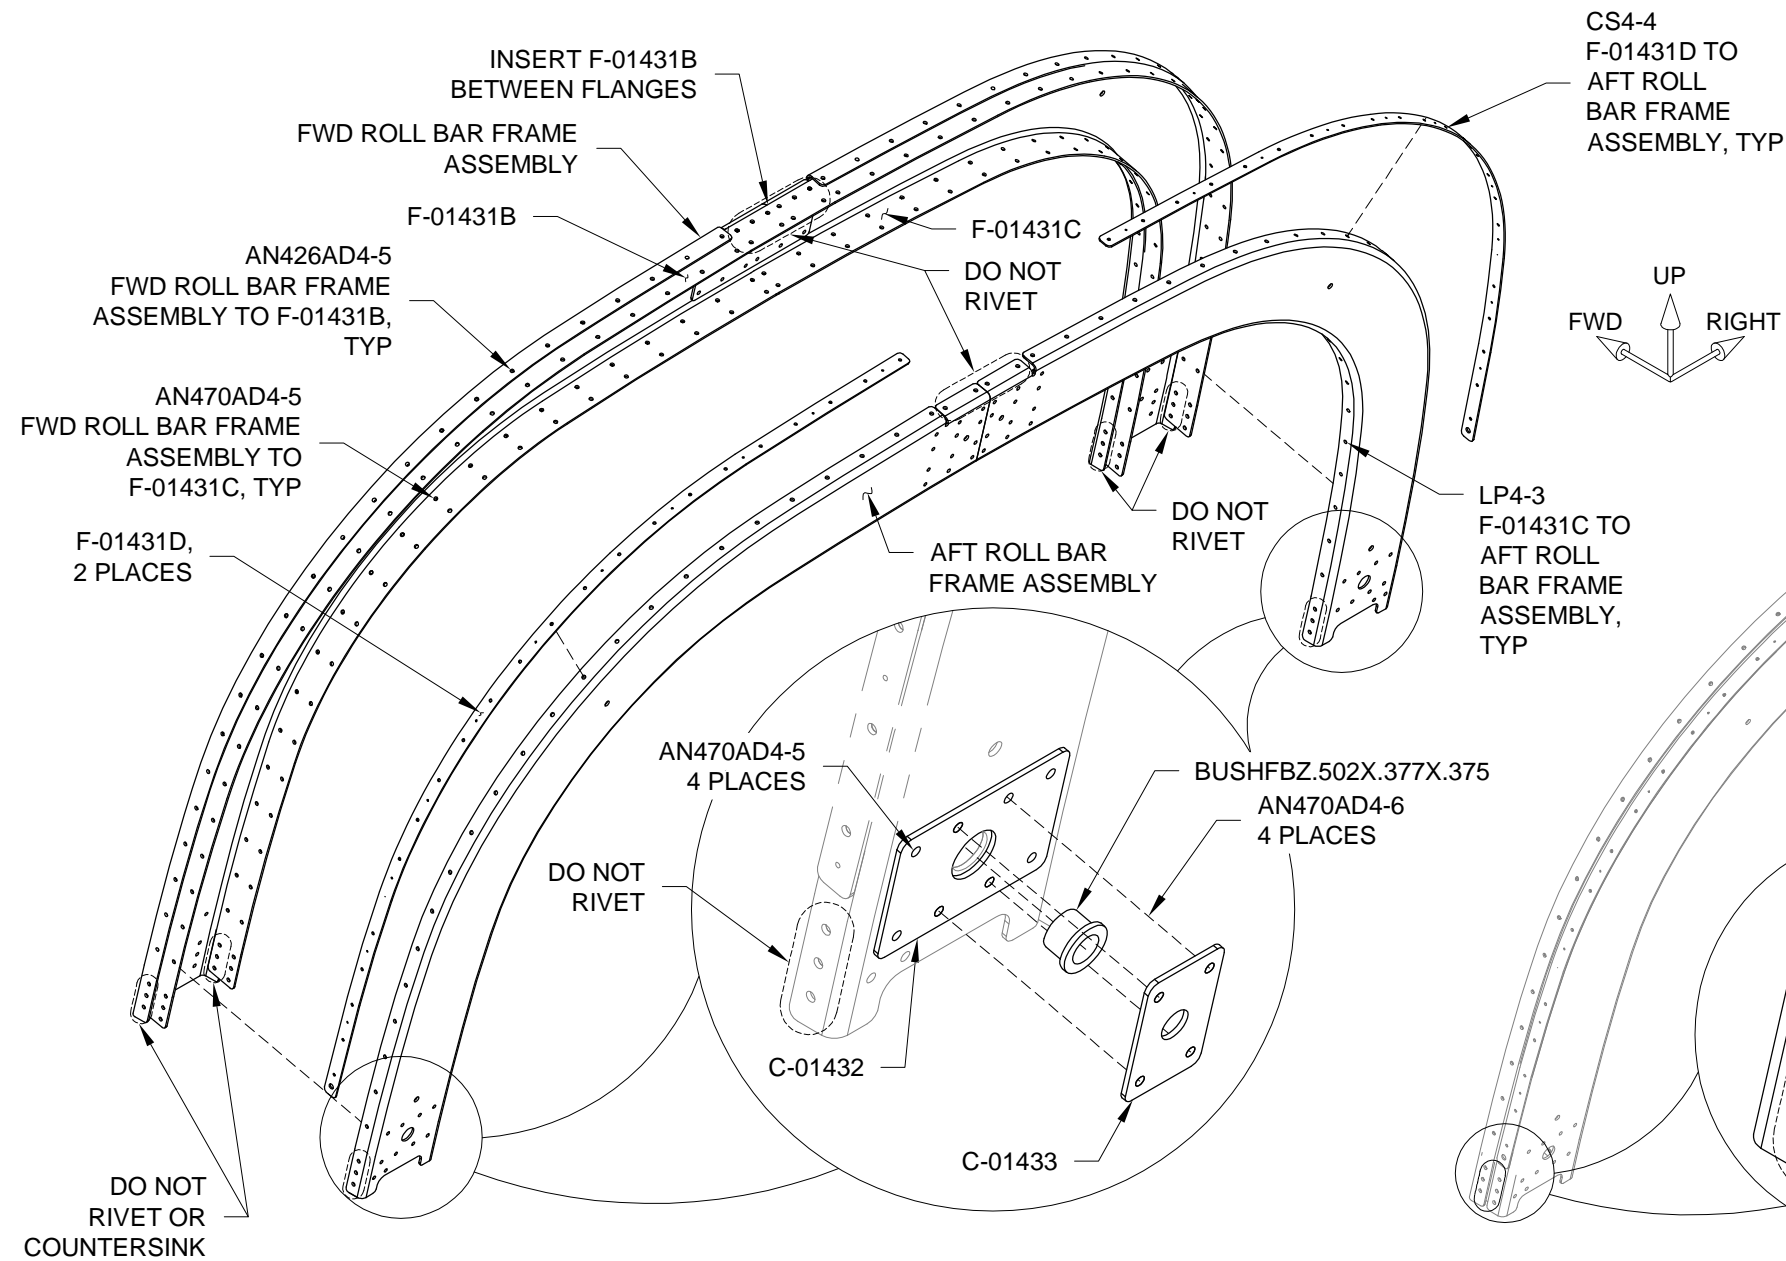

FIGURE 1: EXPLODED ASSEMBLY
Install the BUSHFBZ.502X.377X.375 Bushings called out in the Figure 1 Detail, then rivet the C-01433 Bushing Covers in place as shown.
Step 7: Push the Aft Roll Bar Frame Assembly onto the F-01431B and F-01431C Roll Bar Straps and cleco together with the F-01431D Window Shims. Lay the assembly on a flat surface to ensure that there is no twist and rivet using the rivets called out in Figure 1.